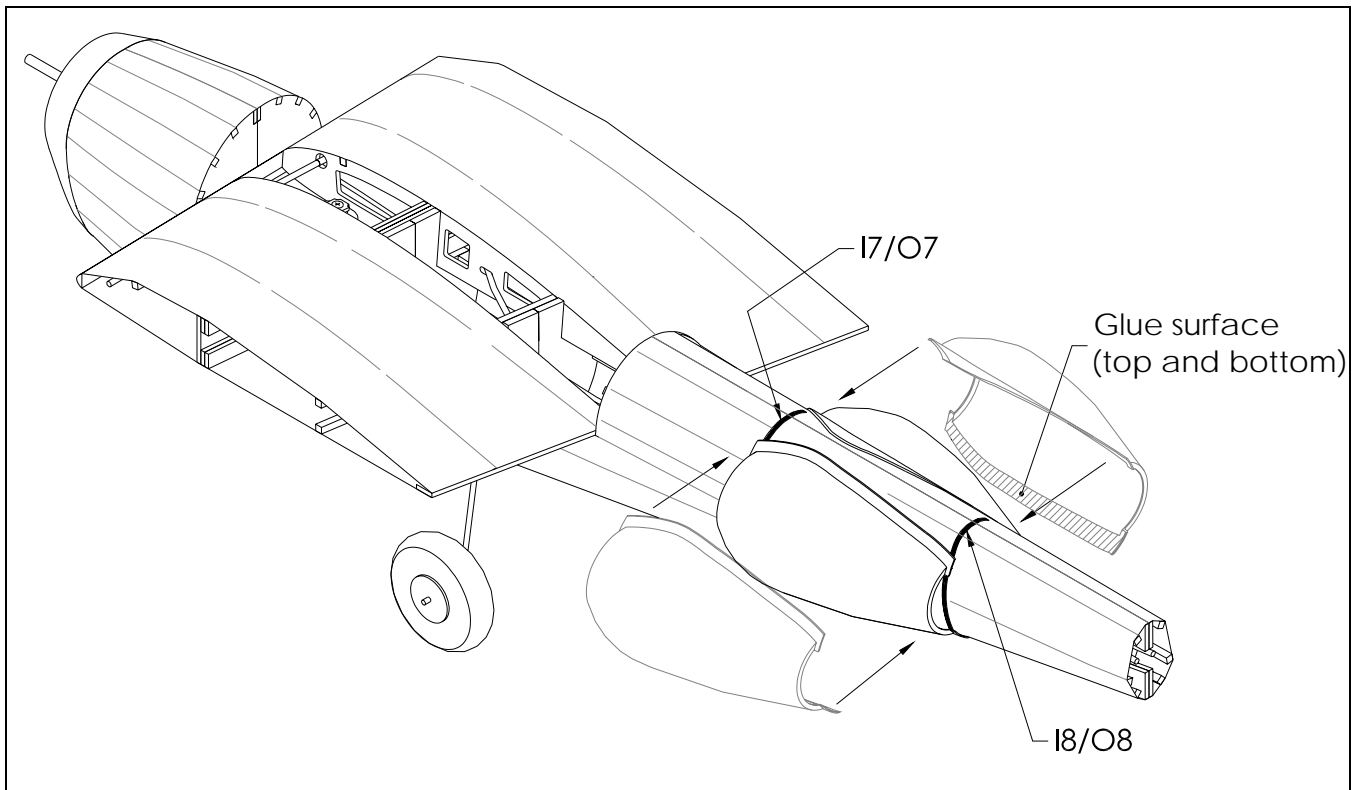

Figure 34
- ❑ Glue the boom scoops to the inside and outside of the booms between formers **17/07** and **18/08**, and directly onto the covering with a light amount of 5-minute epoxy. This is illustrated in Figure 34.